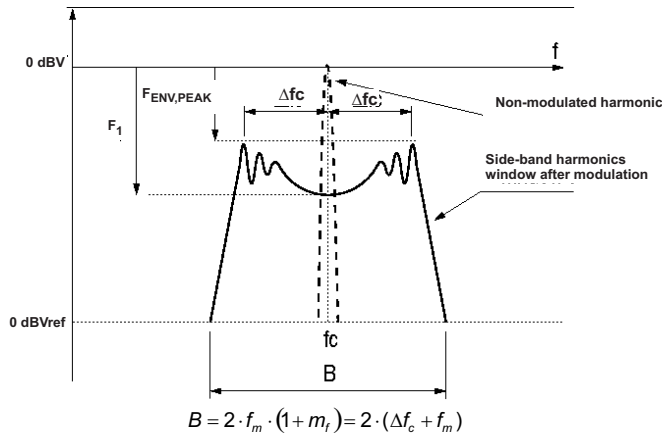
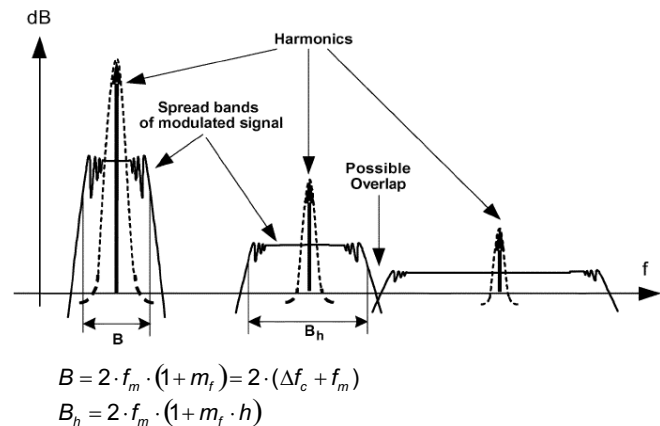

Figure 13. Spectrum Of A Frequency Modulated Sin. Wave With Sinusoidal Variation In Time
Figure 14. Spread Bands Of Harmonics In Modulated Square Signals ⁽¹⁾
(1) Spectrum illustrations and formulae (Figure 13 and Figure 14) copyright IEEE TRANSACTIONS ON ELECTROMAGNETIC COMPATIBILITY, VOL. 47, NO.3, AUGUST 2005. See References Section for full citation.